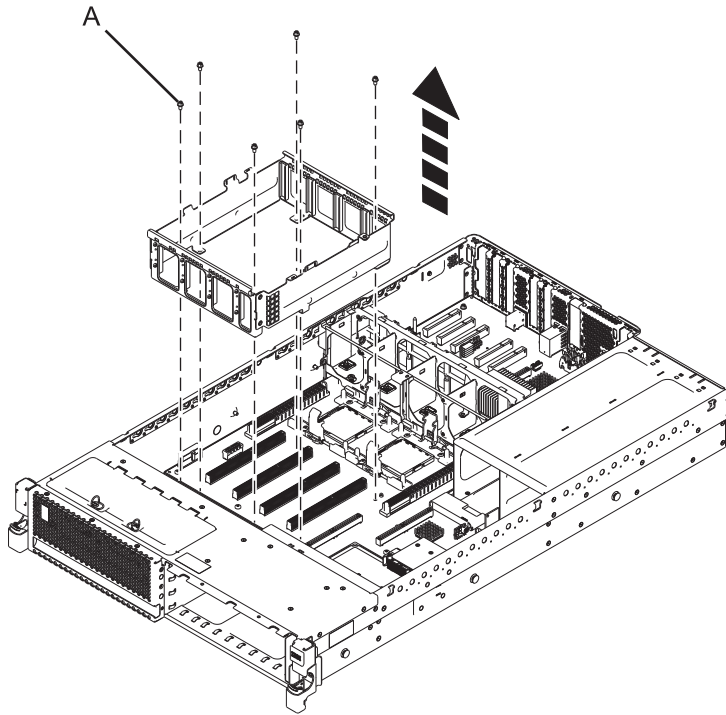

Figure 7. Removing the DIMM cage
- a. Remove the six screws that secure the DIMM cage (A). See Figure 7.